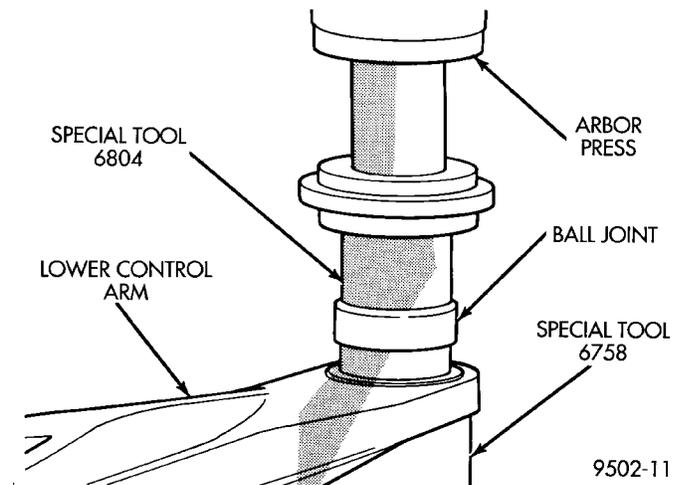

Fig. 69 Installing Ball Joint In Lower Control Arm
(1) By hand, position ball joint assembly into ball joint bore of lower control arm. Be sure ball joint assembly is not cocked in the bore of the control arm, this will cause binding of the ball joint assembly, when being pressed into lower control arm.
(2) Position assembly in an arbor press with Receiving Cup, Special Tool 6758 supporting lower control arm (Fig. 69). Then install Remover/Installer,
Special Tool 6804 on the bottom of the ball joint assembly (Fig. 69).
(3) Carefully align all pieces. Using the arbor press apply pressure against ball joint assembly (Fig. 69), until ball joint is fully seated against bottom surface of lower control arm. Do not apply excessive pressure against ball joint and lower control arm.
(4) Install a **NEW** ball joint assembly sealing boot on ball joint assembly. Install sealing boot as far as possible on ball joint assembly.